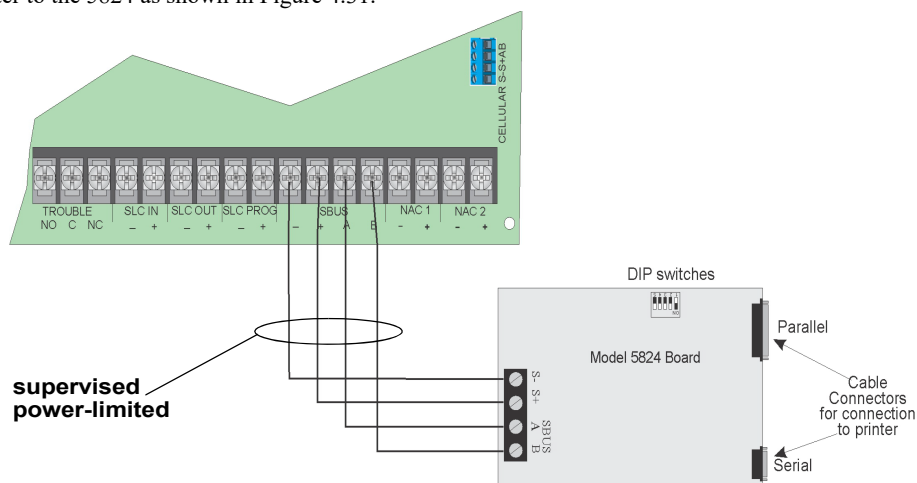

Figure 4.31 5824 Connection to the Panel
2. Connect the 5824 to the panel as shown in Figure 4.31.
5. Connect a printer to the 5824 as shown in Figure 4.31.